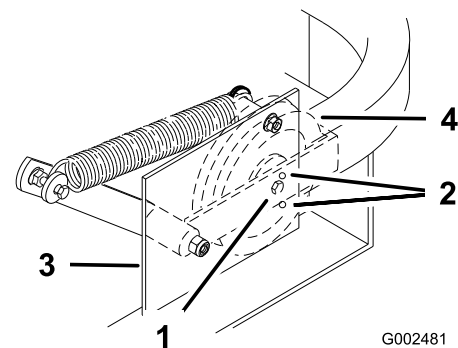

Figure 56
Important: Check and make sure the belt is installed into both the front and rear belt guides (Figure 56).
4. Check the belt tension. The spring loaded idler center bolt needs to be near the top alignment hole in left support plate (Figure 56).